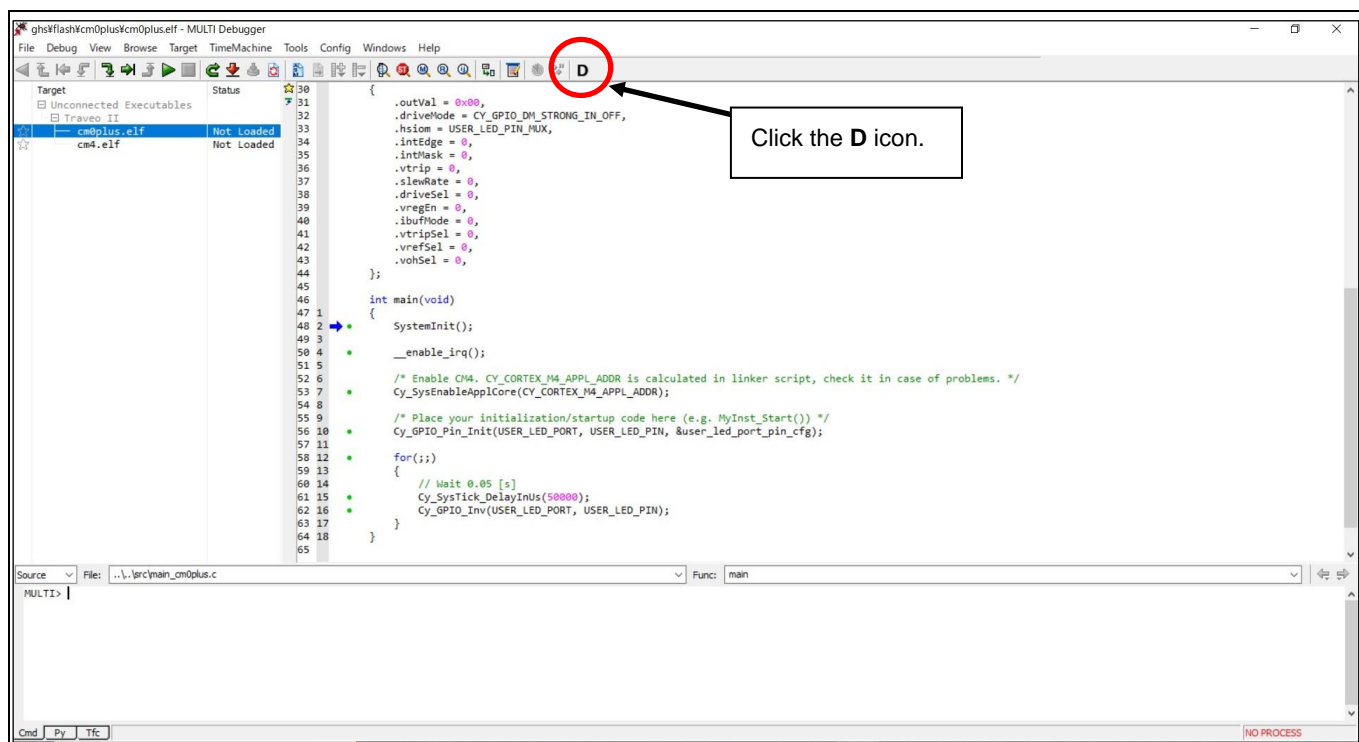

Figure 16 Debug the project of SDL project
- To enable the SDL project to detect the debugger script, click the **D** icon as shown in **Figure 16**.